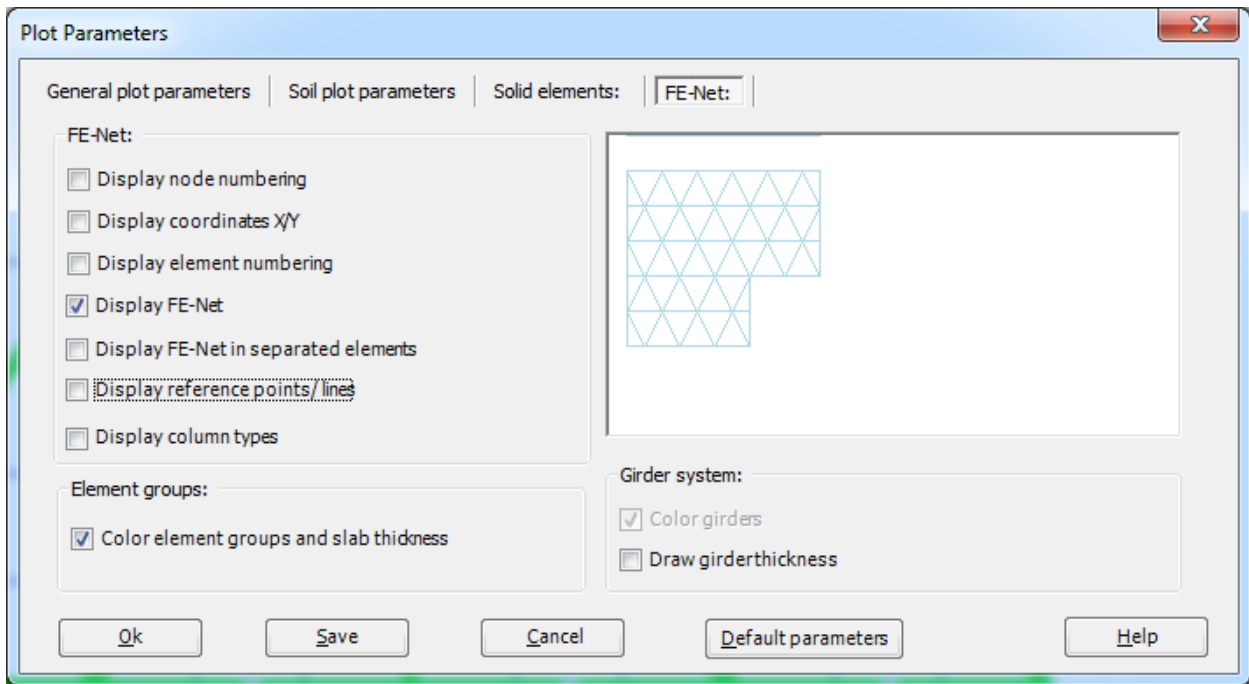

Figure 6.19 "Plot Parameters" dialog box
- Choose "Plot Parameters" command from "Setting" Tab. The "Plot Parameters" dialog box in Figure 6.19 appears